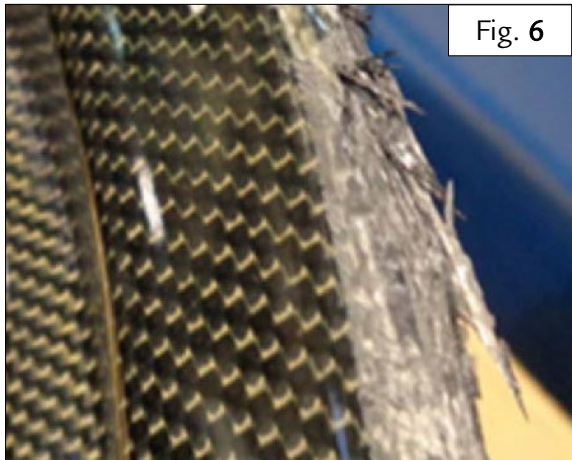

Fig. 6
- Damage to rim of wheel (Fig.6);